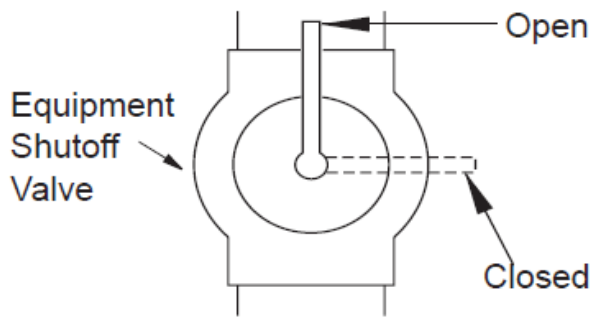

Figure 4 - Equipment Shutoff Valve
1. Close equipment shutoff valve (see Figure 4).
1. Open equipment shutoff valve (see Figure 4).
3. Close equipment shutoff valve (see Figure 4, page 7).